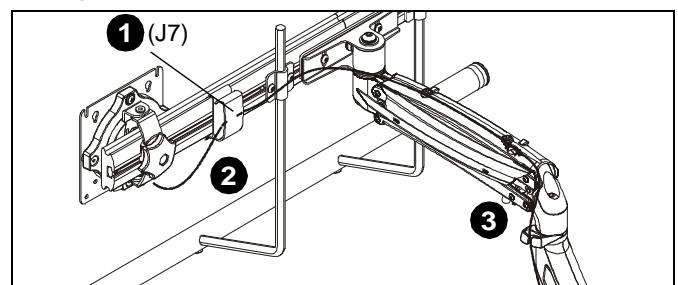

Figure 30
1. Install array cable clips (J7) to back of array. (See Figure 30)
2. Route cables through array cable clips (J7) as desired. (See Figure 30)
3. Route cables through arm cable clips as desired. (See Figure 30)